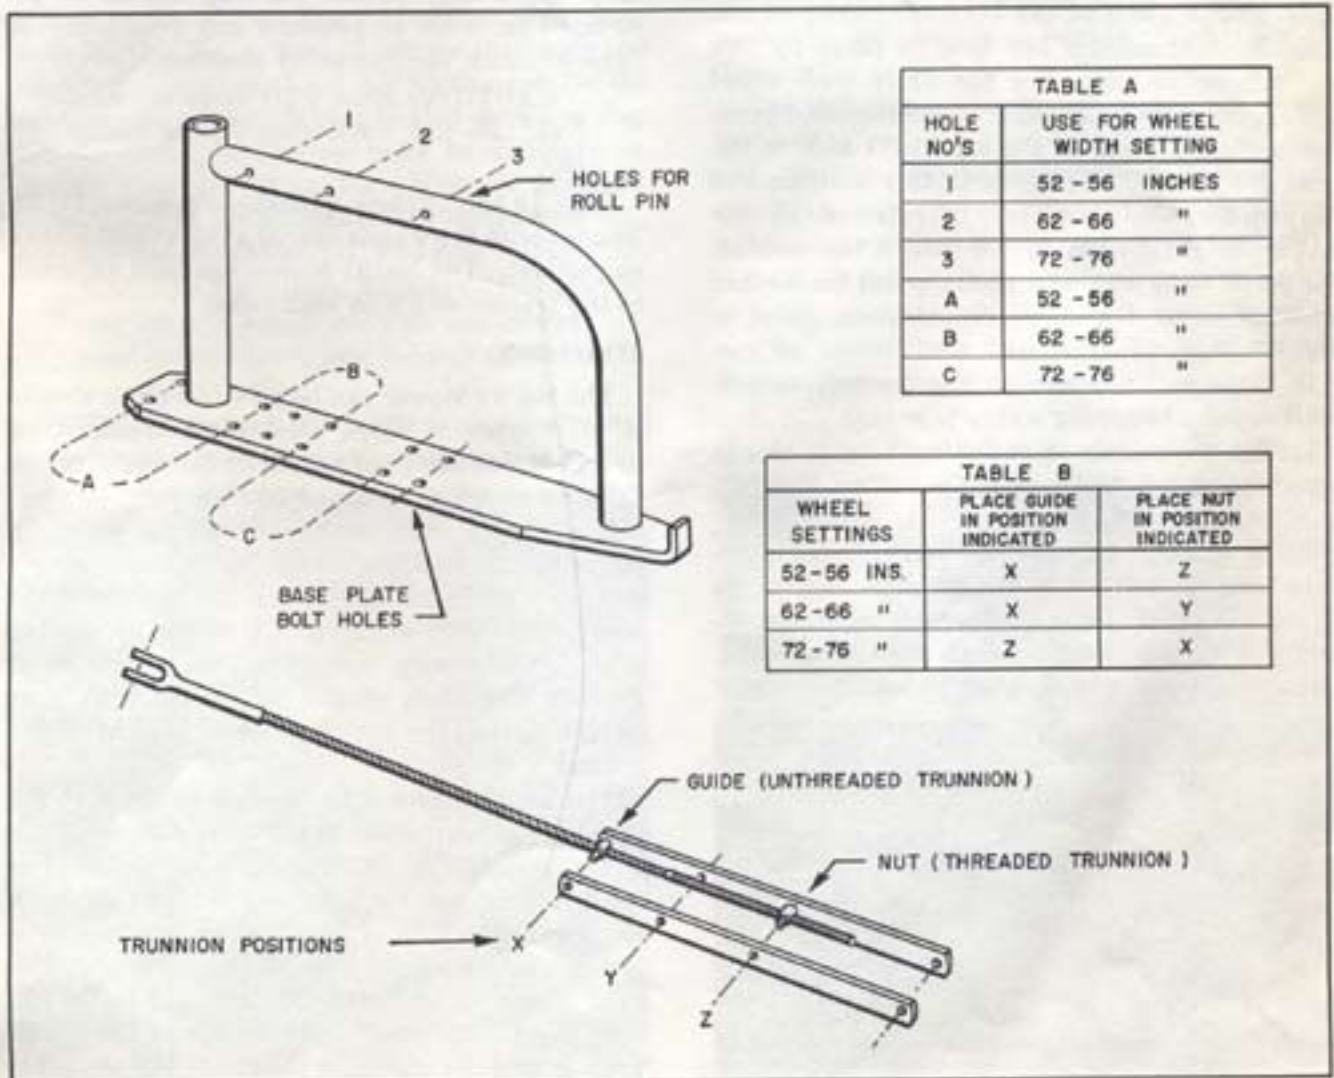

Fig. 9 Width Adjustment Diagram
4. Remove the nuts and washers from the four base plate bolts. The lift frame can now be lifted clear of the mower and repositioned on the four base plate bolts at the required position. The diagram, Fig. 9 shows correct bolt holes to use
7. The lift cable should now be refitted to its retaining links. Take notice of the two trunnions provided, one is threaded and one is non-threaded. In the diagram, Fig. 9, the trunnions are shown in the correct position for a 52 to 56 inch wheel setting. The non-threaded trunnion is fitted at the top (left) of the links and used as a guide, while the threaded trunnion is used to retain the cable, and is fitted at the bottom (right) of the links. Both trunnions are held in place by two $\frac{3}{32}$ inch cotter pins. For the 72-76 inch wheel setting, the cable is attached to the threaded trunnion, which is fitted at the top (left) hole in the links. No guide is necessary in this position and the non-threaded trunnion is retained in the bottom (right) position for use when needed. For the 62 to 66 inch wheel setting and for further information on the above adjustments, refer to Fig. 9.